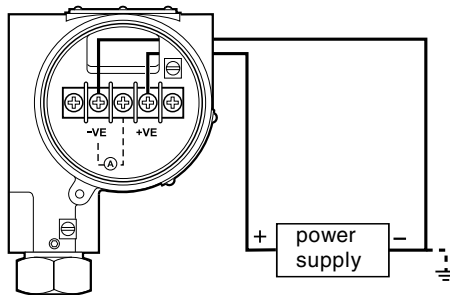

Figure 3-7 Transmitter connections
- When using external power supplies, make sure the connection polarity allows current to flow into the +ve terminal and out of the -ve terminal. Refer to figure 3-7.
Electrical connections (Figure 3-7)